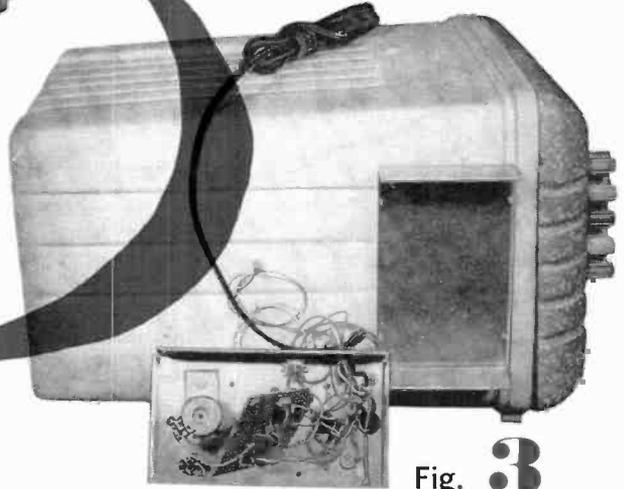

Fig. 3
**Control Circuit.** The control circuit is mounted in a suitable chassis, the bottom plate of which is affixed to the cooler on the side opposite the fan as shown in the photo in Fig. 3.